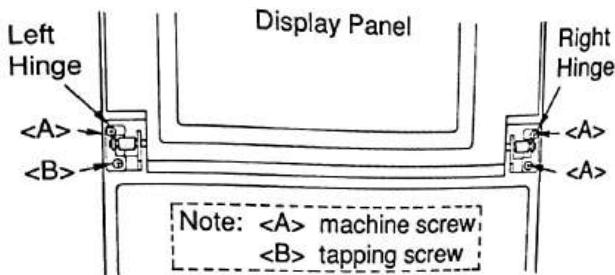

Figure 6
(9) Remove three screws <A> (machine screw, 3 $\varnothing$ ×8) on the right and left hinges, and remove one screw  (tapping screw, 3 $\varnothing$ ×10) on the left hinge as shown in Figure 6.